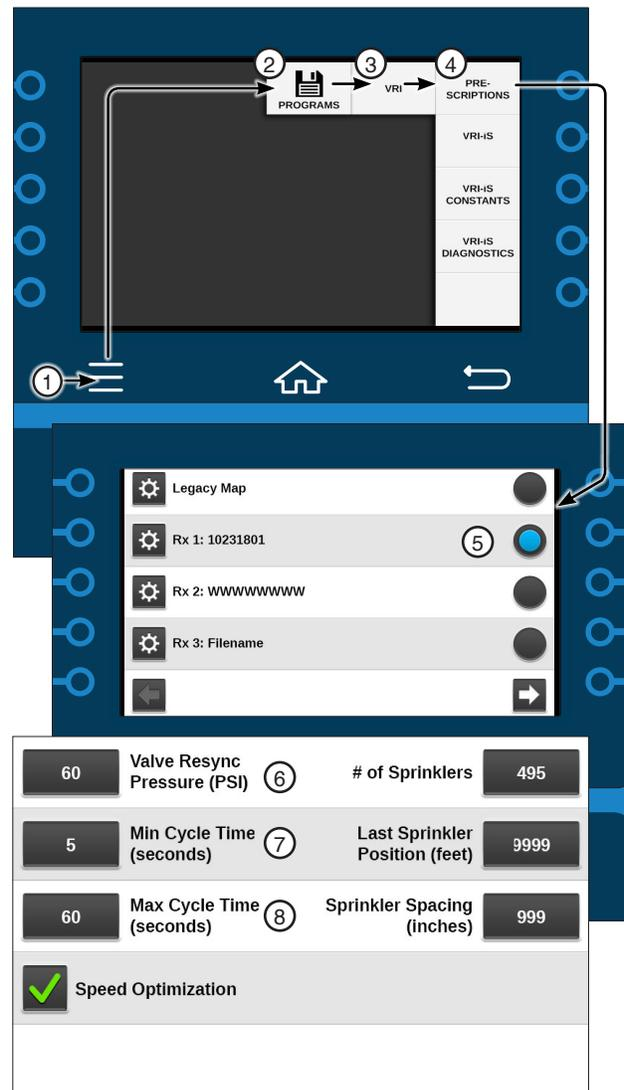

Figure 178-1 1. Menu 5. Rx Prescription
1. Push **Menu**, **Programs**, **VRI** and **VRI-iS Constants** to display the VRI-iS Constants screen. Refer to Figure 178-1.